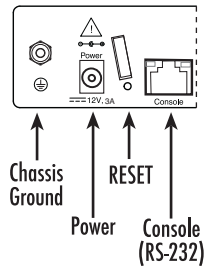

Figure 7. Power connector location on rear panel
5. Connect the power supply (see section “Verify that the green Power LED is lit (see Figure 7).” on page 31)
1. Insert the barrel type connector end of the AC power cord into the *12V DC, 1.0A* port (see Figure 7).
5. Verify that the green *Power* LED is lit (see Figure 7).